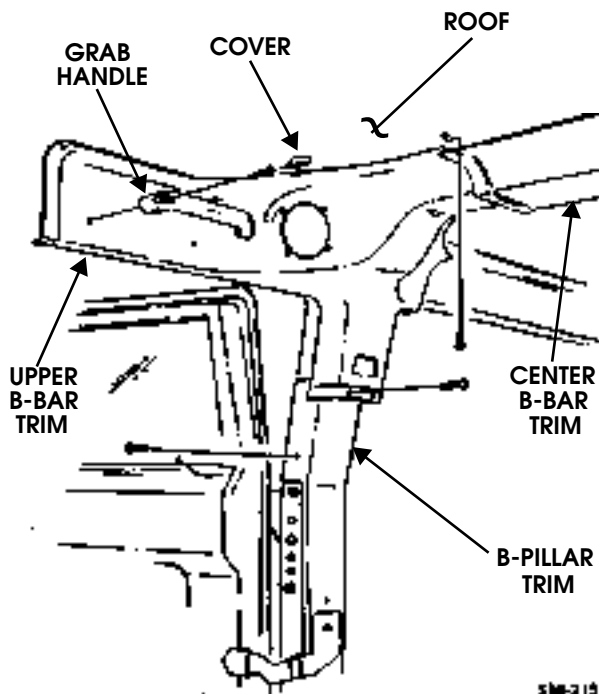

Figure 10-37: Driver Side Interior Trim Component Identification
4. Remove screw/washer assemblies and B-bar center trim from roof (Figure 10-37).